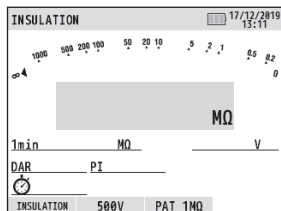

Fig.16-3
- (1) Hold down MEM switch 1 sec in stand-by mode enters RECALL mode and the LCD shows a list of the save data. (Fig. 16-3)